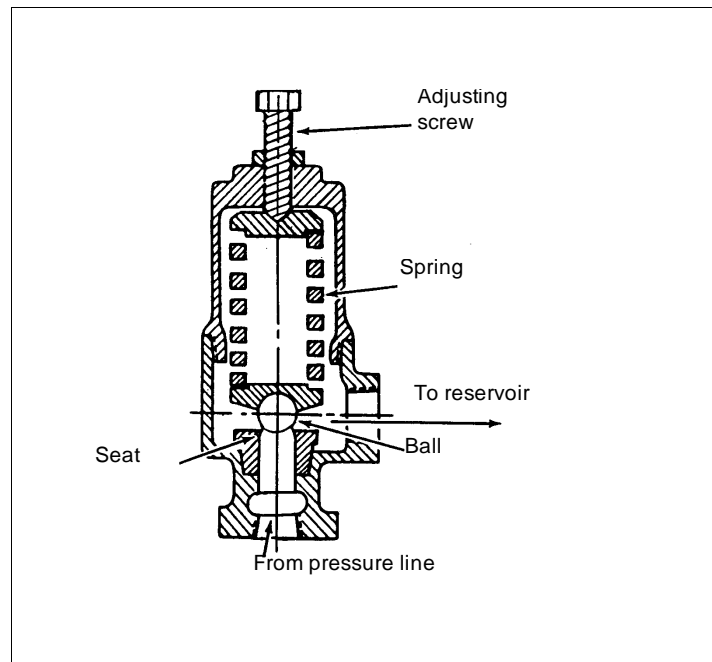

Figure 2-1. Simple pressure-relief valve
a. A simple pressure-relief valve has only one spring. The valve is installed so that one port connects to the pressure line (inlet) and the other connects to the reservoir (outlet). The ball on the simple pressure-relief valve is held on its seat by the thrust of the spring. The amount of thrust exerted can be modified by turning the adjusting screw. When pressure at the inlet is insufficient to overcome the spring force, the ball remains on its seat and the valve is closed as shown in Figure 2-1, page 2-4. The position of the ball prevents the flow of fluid through the valve. When the pressure at the inlet exceeds the adjusted spring's force, the ball moves off its seat and the valve opens, allowing hydraulic fluid or oil from the pressure line to flow through the valve to the reservoir. This flow prevents a pressure increase in the pressure line. When pressure decreases below the adjusted spring's force, the ball is resealed and the valve closes.